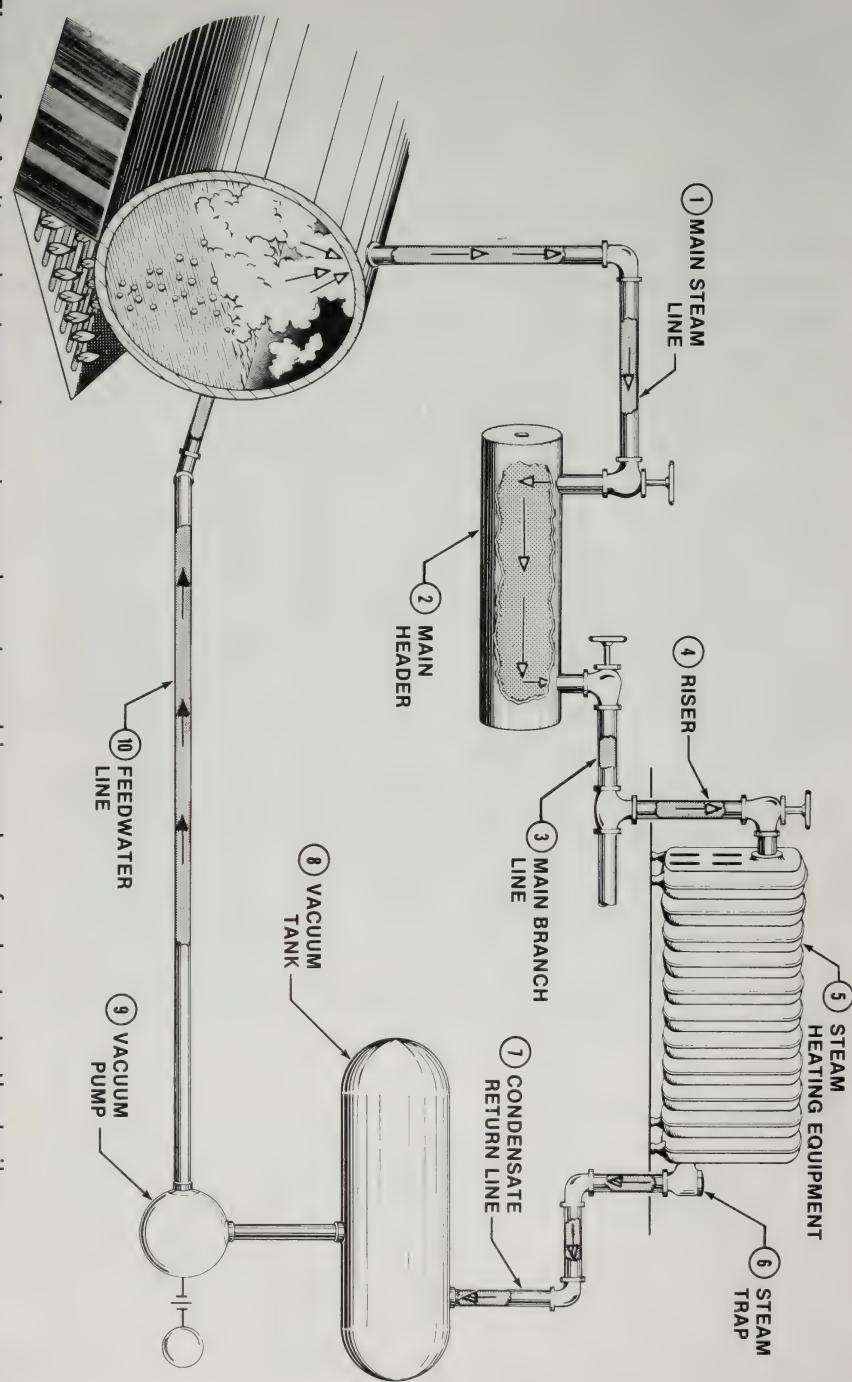

Figure 1-3. As it cools steam turns to condensate and is used as feedwater to the boiler.
The function of the feedwater system is to feed water to the boiler. See Figure 1-3. Water in the boiler is heated and turns to steam. The steam leaves the boiler by a pipe called the main steam line (boiler outlet) (1) where it enters the main header (2). From the main header, main branch lines (3) carry the steam to a riser (4) and then to the steam heating equipment (5).